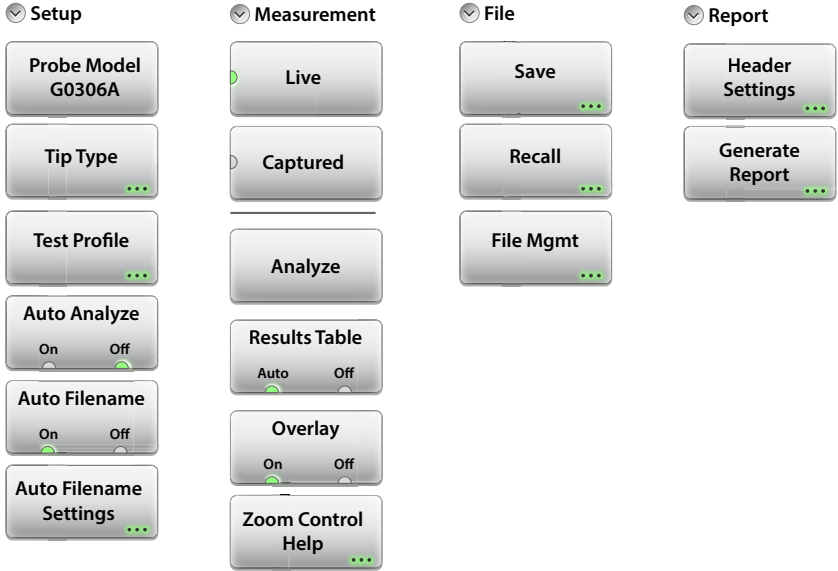

Figure 15-11. VIP Menu Map
Figure 15-11 illustrates the menus available in VIP Mode. The main menu keys appear at the bottom of the display screen. The **Save/Recall** key brings up the same File menu as does the keypad menu key **File (1)**.